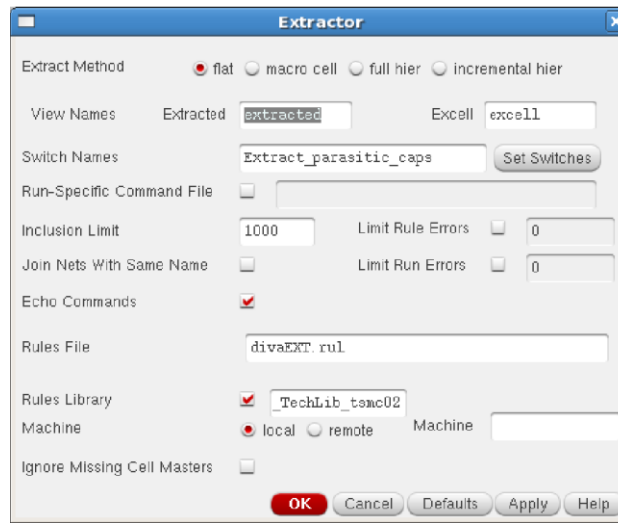

Figure 15. Extractor window
- Choose “Verify > Extract” in the layout window, then extract window appears. Click on the “set switches” option, select “Extract_parasitic_caps”, and click OK. If you see the Extractor window as Figure 15, click OK, and the extraction process starts. If the process succeeds, and no errors appear on CIW, then the extracted view is created and shown in Library Manager.